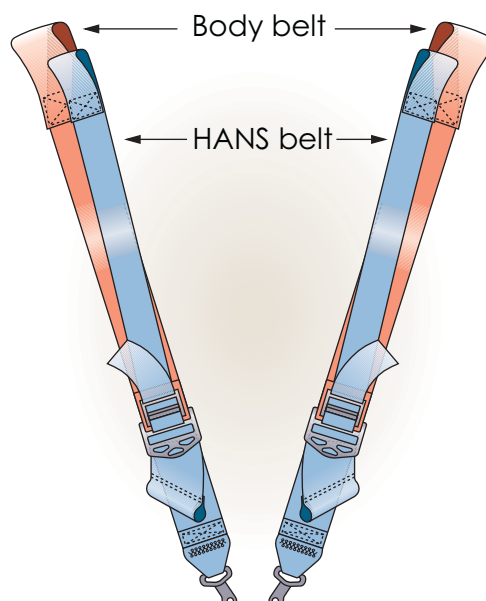

Figure 5. Double shoulder belt system
2.5 A double shoulder belt system is available to improve the clamping load of the shoulder straps on the driver's torso (for comfort only) during normal racing conditions. The double shoulder belt system provides one **body-belt** that is positioned on the driver's shoulders (beneath the HANS®) and a second **HANS®-belt** that is positioned on the HANS® yokes (as for standard HANS® use). It is important that the HANS®-belt is at least as tight as the body-belt. A drawing of the double belt system is shown in Figure 5.